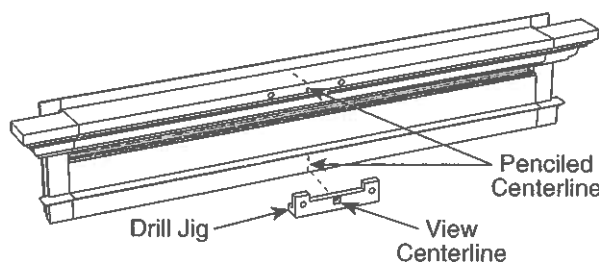

Figure 11
10. Place stepped edge of Drill Jig (provided with Keystone) on Mantel's top edge and align slotted hole over penciled centerline of Mantel. Drill two 1/4" holes through hole pattern of Drill Jig. Repeat second set of holes on bottom edge of Mantel (Figure 11).